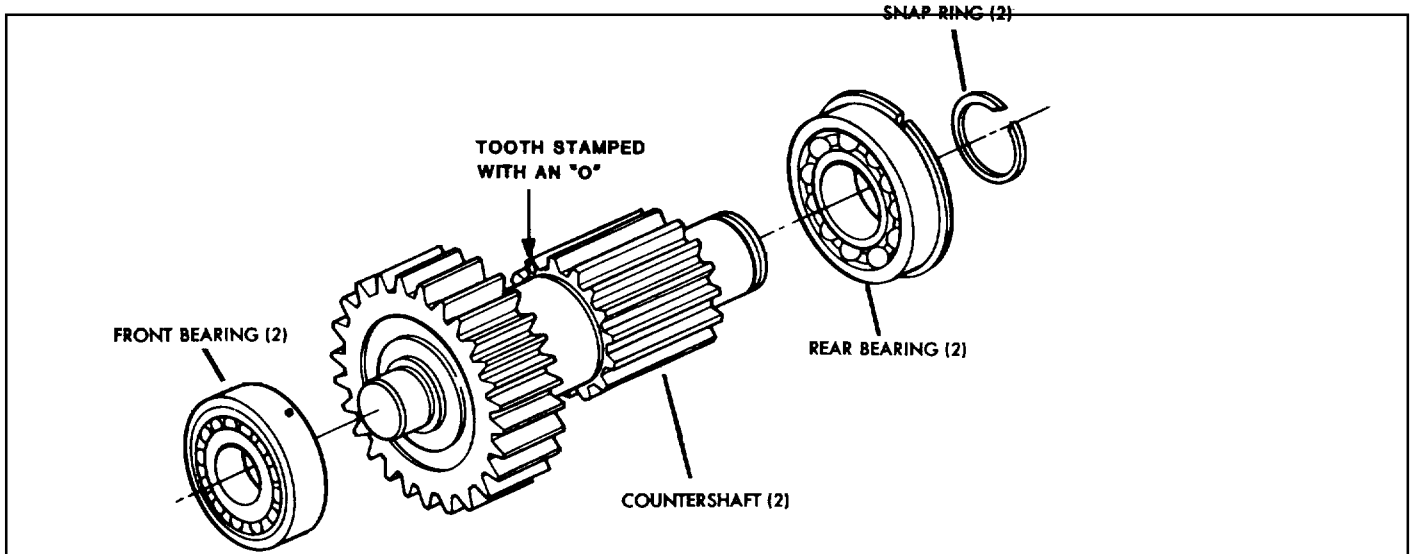

Fig. 3
1.6 Removal of the Countershaft Assemblies (Fig. 3)